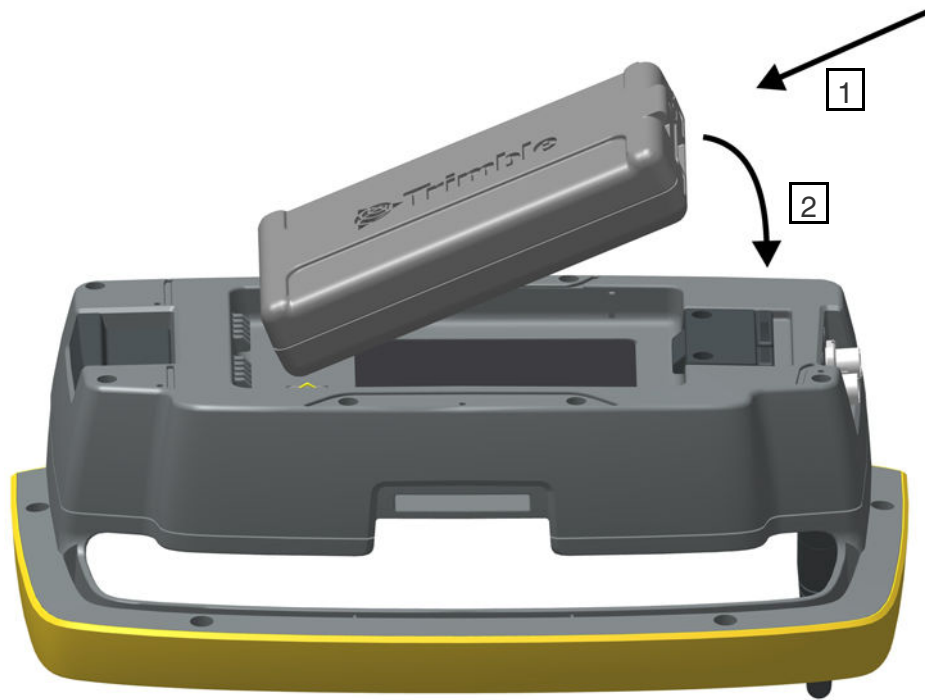

Figure 5.13 Attaching a battery to the Trimble Robotic Holder
1. Fit the battery on to the hooks on the holder (1).
2. Push the battery on to the holder until it clicks into place (2). See Figure 5.13